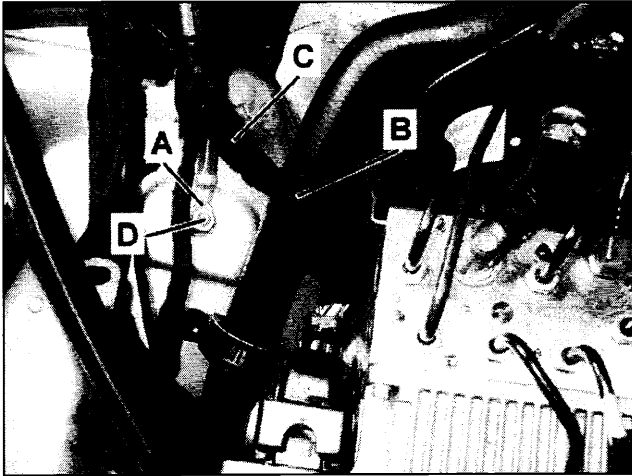

Figure 22
- Ring connector (A, Figure 22) **must** be positioned as shown to avoid contact with water hose (B) and chafing the wire harness (C).
- This ground terminal (D) is to be used **only** for mounting the SBC ground wire.